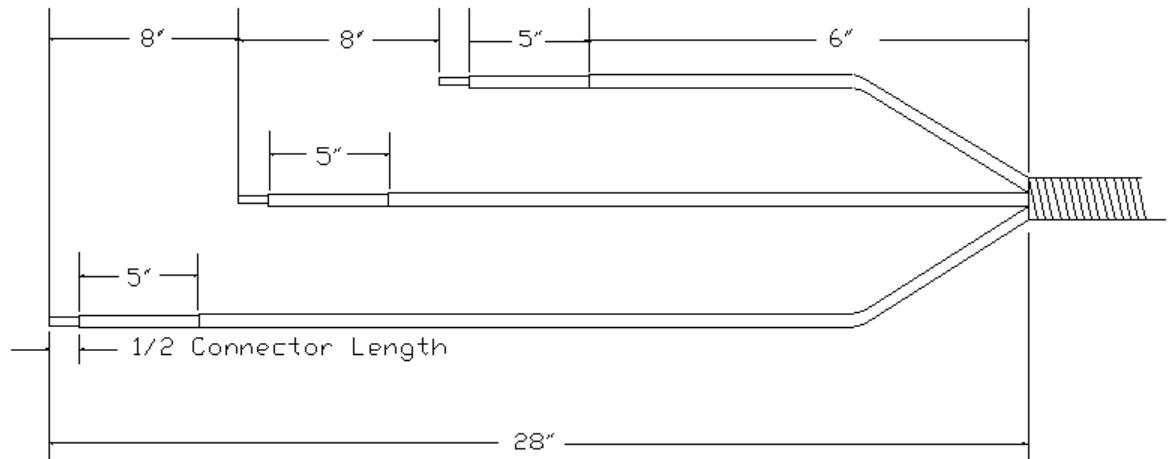

Figure A-5: Conductor preparation for high-temperature lead-jacket cables and MLE
1. Position the ends of the cables on the splice bench and secure the clamps onto the armor being careful not to over-tighten the clamps. (Overtightening the clamps will distort the armor.) Remove the armor to the dimensions shown in Figure A-5 being extremely cautious to avoid cutting into the lead jacket. Remove any burrs or sharp edges on the cut.
4. Remove the lead jacket in accordance with the dimensions shown in Figure A-5. Use extreme care not to damage the insulation.
5. Use a hacksaw or wire cutters and file to cut the conductors to the lengths shown in Figure A-5.
6. Obtain the proper sized splicing sleeves. Remove the insulation to the dimension shown in Figure A-5.